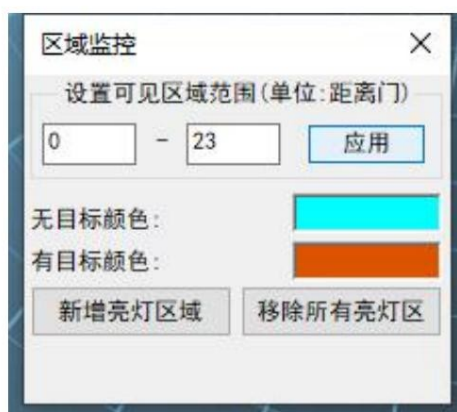

Figure 2.2.4 "Area Monitoring" settings interface
Step 2: Click the "Area Monitoring" button. The interface shown in Figure 2.2.4 will appear. The functions of each part of the interface are described below: